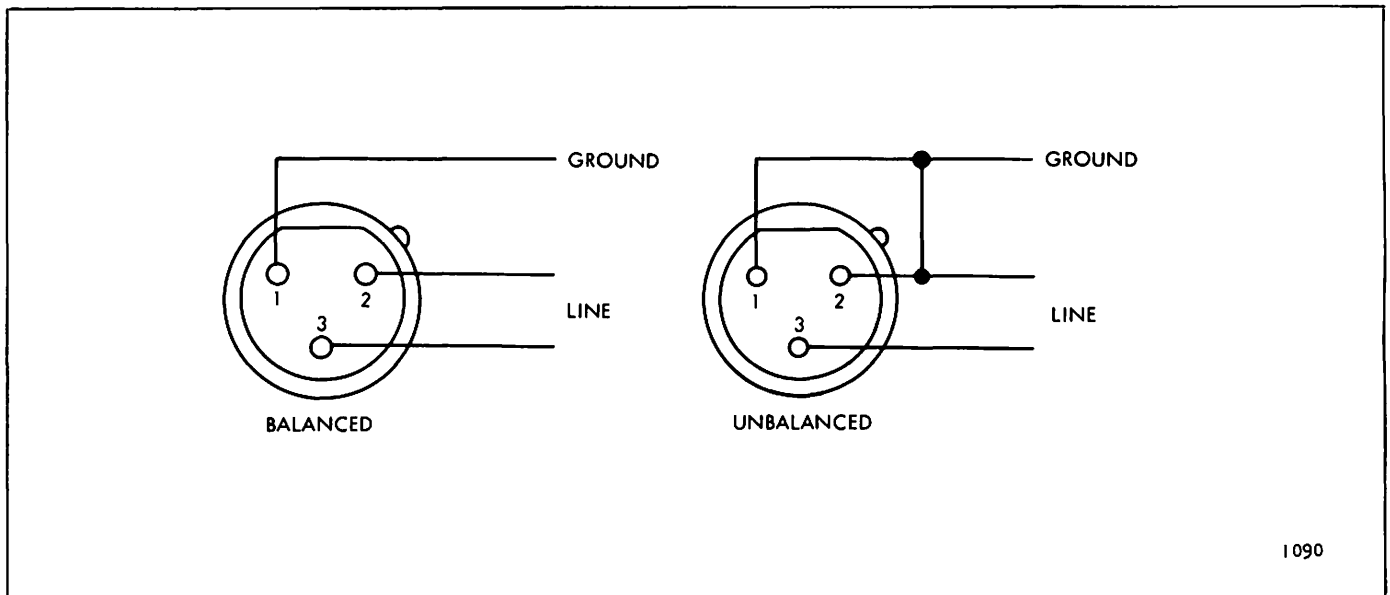

Figure 16. Signal Output Connector Wiring
3. Connect the signal output cables to the XL type connectors. Be sure that the proper channel identification is maintained. The cables should be made up as shown in figure 16. The output impedance is 600 ohms.
The output signal for connection to line facilities is to be fed from the male SIGNAL OUT connector to an XL type female connector on the outgoing cable. Use pins 2 and 3 for the signal output with pin 1 as ground. See figure 16. A balanced line may be fed from 2 and 3, or an unbalanced line may be fed by grounding either 2 or 3. In the interest of consistency, it is suggested that 2 be employed as ground and 3 as the signal lead.